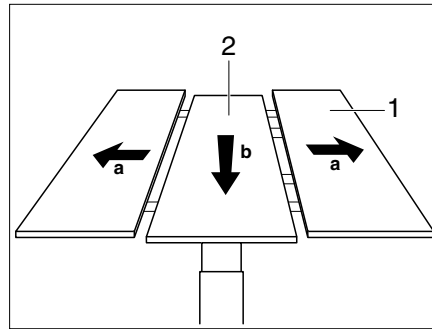

Fig. 105 Moving the middle part up
- Pull the outer parts (Fig. 105,1) of the table apart.
- Push the middle part (Fig. 105,2) of the table firmly downwards. The middle part is pushed upwards through the spring force.
- Push the middle part (Fig. 105,2) of the table firmly downwards. The middle part latches into the lower position.